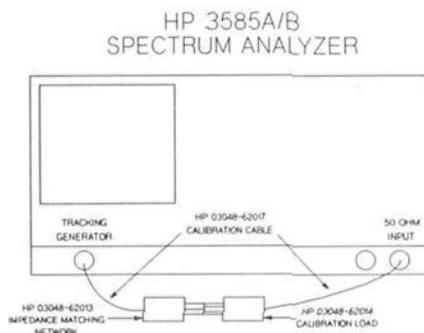

FIGURE 3-1. SETUP FOR REFERENCE MEASUREMENT WITH HP 3585A/B
1. Connect the equipment up as shown in Figure 3-1.